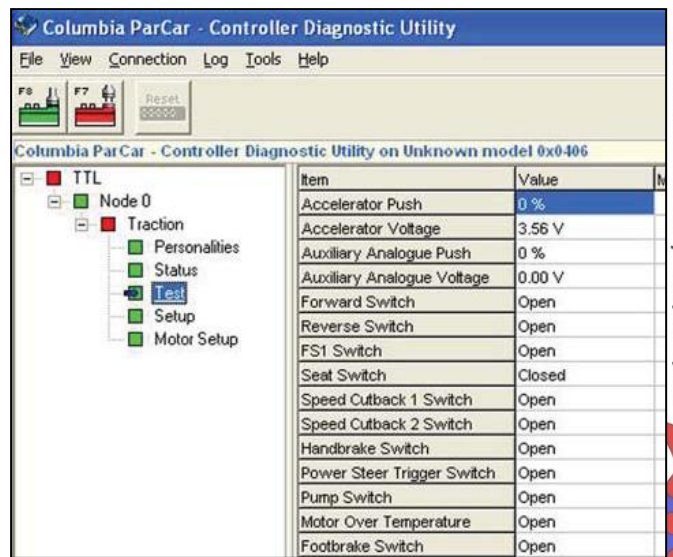

Figure 4.3
1. Open the connection between the controller and the PCPak utility. On the left side of the screen, select the “test” section under the “traction” pull down. This screen will display the inputs the controller is observing at that time (Figure 4-3).